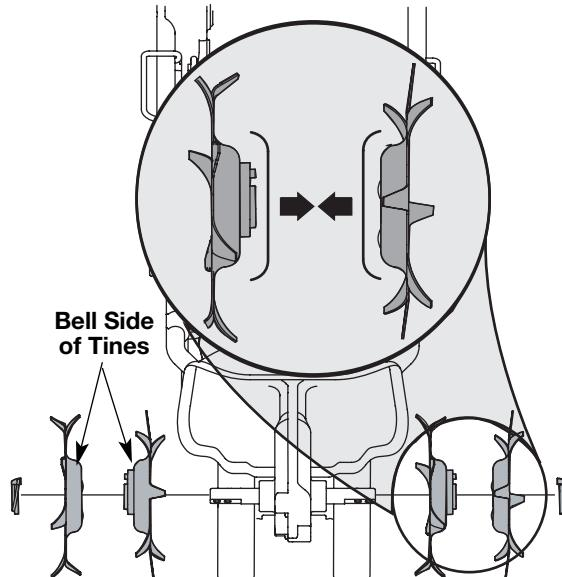

Fig. 9
**NOTE:** Each tine assembly is stamped either "A" or "B" (Fig. 9). Note each tine's location on the shaft for easier reassembly.
- The bell sides of both tine assemblies (on each shaft) should face each other (Fig. 9).
- The hub of each tine assembly (Fig. 9) should face outward (away from the cultivator's gearbox).